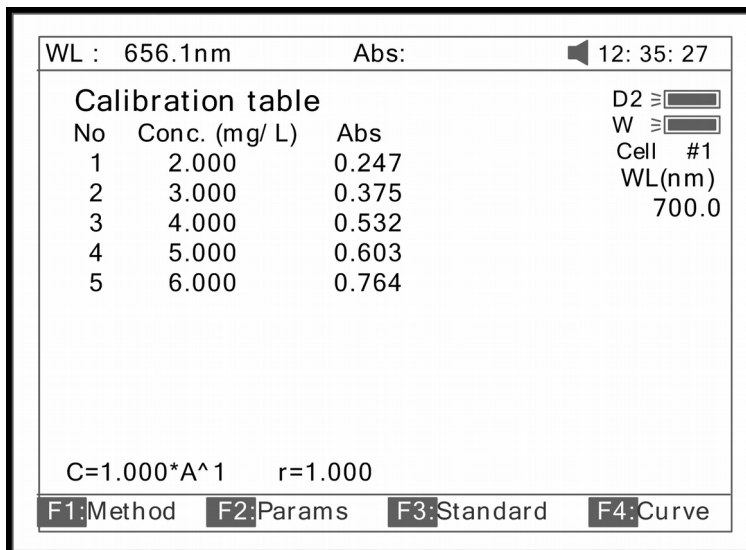

Fig 33
3.3.3 Pull the first sample cuvette of known concentration into the light path, Press the key **(START)** to get values of standard curve one by one (Fig 33).
In Fig 33 press **(Load)** and then press **(^)** or **(v)** to select the file with type^{***}.fit. At last press **(ENTER)** TO confirm.